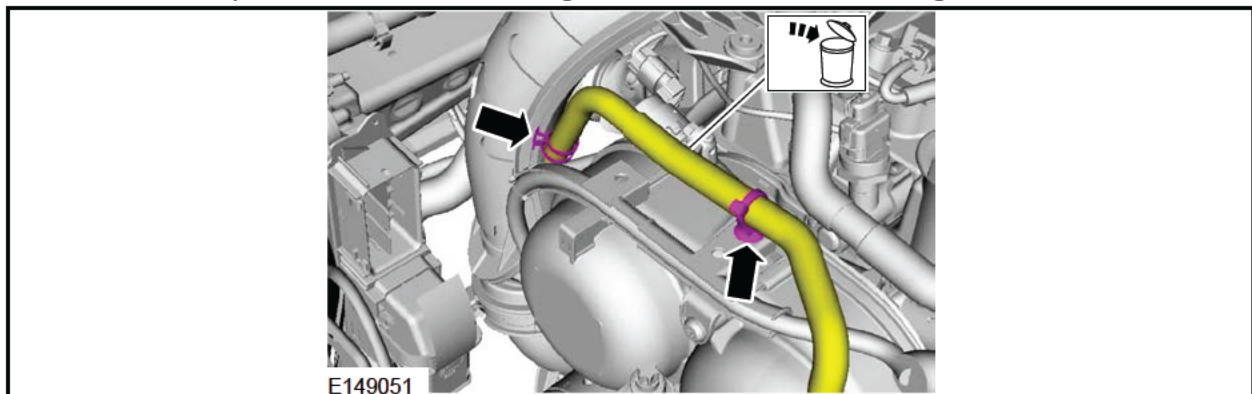

FIGURE I3
2. Disconnect and position aside the turbocharger coolant return hose. See Figure I3.